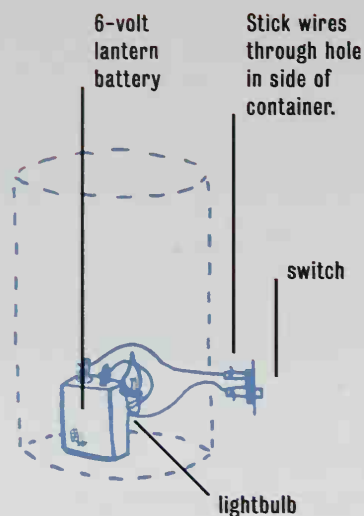

Fig. 1
2. Strip the insulation from both ends of the electrical wires to expose the bare wire. Twist the bare ends of two of the wires tightly around the battery's spring terminals (see Fig. 1). Adding a bit of duct tape to the connection will help keep the wires in good contact with the terminals.
3. Place the battery and the bulb inside the container. Stick the unattached ends of the wires through the hole in the side of the container (see Fig. 1). If desired, attach these loose ends to a switch, as shown in Fig. 1.